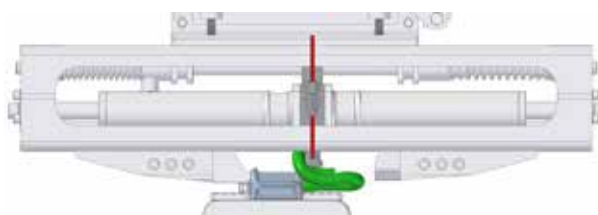

Fig 97.
2. Set the machine to manual mode by pressing the button (2) on the control panel.
3. Check that the indicator (1), Fig 97 is set to "Installation mode".
4. Set the tool to clipping mode "Inst." by pressing the button (1).
6. Pull the dead man's grip to activate (7).
7. Press and hold the button (5) to operate the clipping function.
10. Set the machine to auto mode by pressing the button (2) on the control panel.
11. Transfer the machine to the next sleeper. Initiate a clipping sequence by pressing the button (5). The clipping hook will retract automatically.